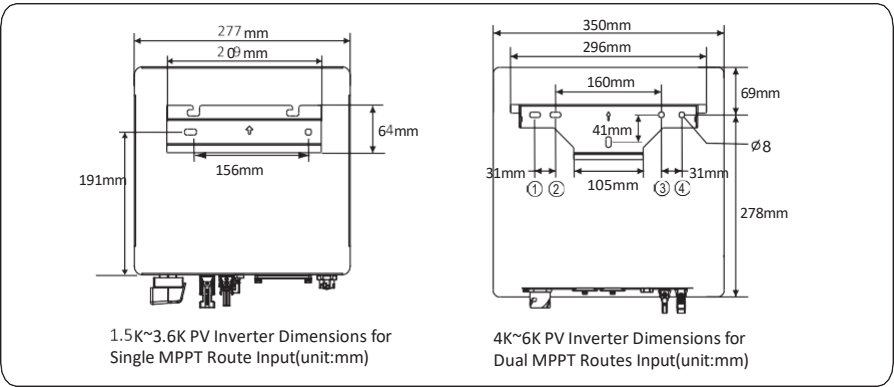

Figure 4.10 Determine the positions for drilling holes (unit: mm)
Step 2 Determine the positions for drilling holes (as shown in Figure 4.10) using the rear panel.